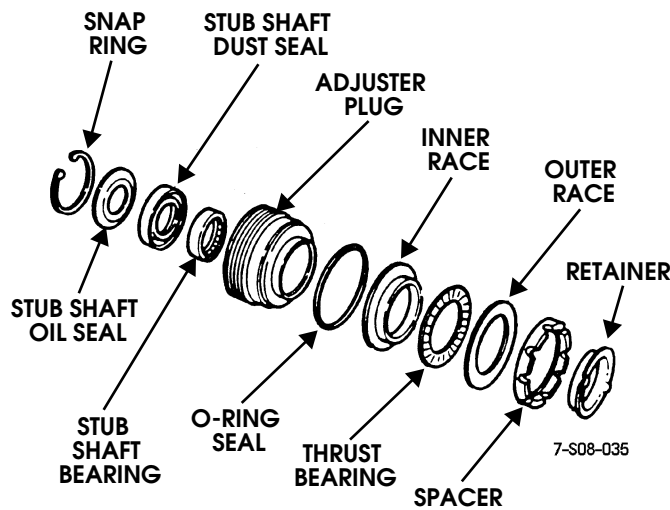

Figure 8-62: Adjuster Plug Assembly Sequence
3. Install stub shaft oil seal and dust seal in adjuster plug with tool J-6221. Then install snap ring to secure seals and bearing (Figure 8-62).
4. Assemble and install thrust bearing and races in adjuster plug (Figure 8-62). Be sure races are installed as shown (Figure 8-62).
5. Install spacer and retainer in adjuster plug (Figure 8-62).